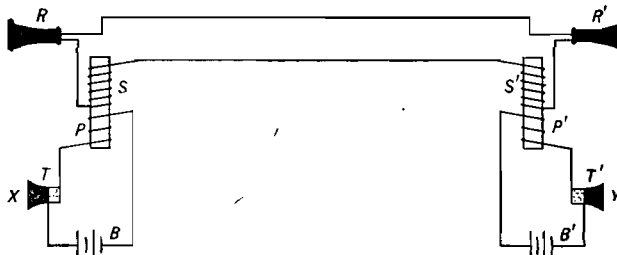

Fig. 40.3. A two-party telephone system.
*A Two-Party Telephone System.* The sending and receiving apparatus for two parties only is shown in Figure 40.3. Party X speaks into the transmitter  $T$ , and the vibration of the diaphragm causes a variable direct current to flow through the coil  $P$  which has but few turns of wire. As a result, an alternating current of higher voltage is induced in the coil  $S$  which has many turns
The ringing device for calling central or another party is not shown, but when the receiver is in its cradle the circuit shown in Figure 40.3 is open, and the line is connected to the ringing device. In large cities battery systems are not practical because of the difficulty of keeping so many batteries in working order. Instead, a large central generator is used which furnishes current to all of the phones of the system.